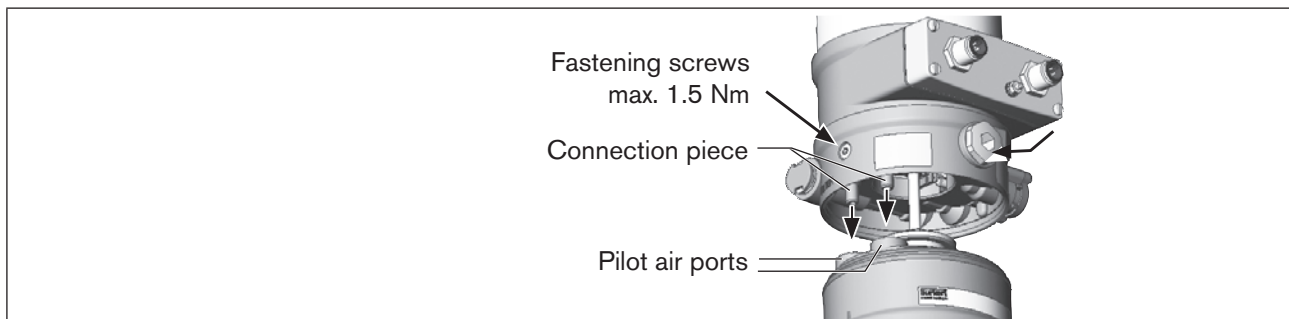

Figure 15: Aligning the pilot air ports
1. Align the pilot air ports of the actuator with the connection pieces of Type 8692/8693 (see "Figure 15").